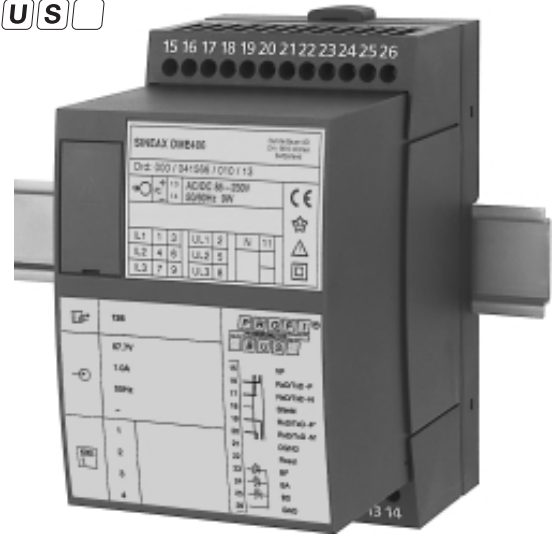

Fig. 1. SINEAX DME 406 in housing T24, clipped onto a top-hat rail.
**SINEAX DME 406** (Fig. 1) is a programmable transducer with a PROFIBUS-DP connection that simultaneously measures all variables of a heavy-current power system.